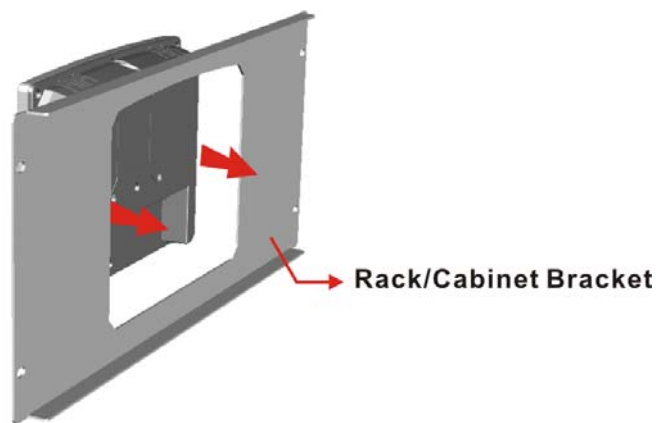

Figure 3-17: The Rack/Cabinet Bracket
- Step 1:** Slide the rear of the AFL-915 series flat panel PC through the rack/cabinet bracket until the aluminum frame is flush against the front of the bracket (**Figure 3-17**).